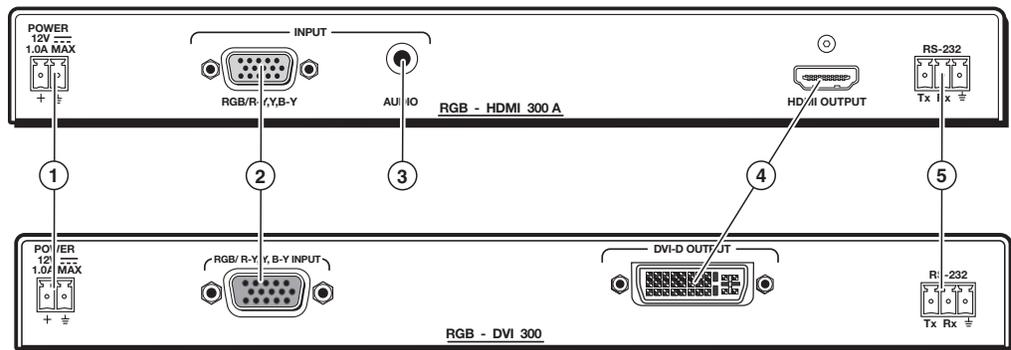

Figure 2. RGB-HDMI 300 A (Upper Panel) and RGB-DVI 300 (Lower Panel)
Figure 2 shows the rear panel features of the RGB-HDMI 300 A (upper image) and RGB-DVI 300 (lower image). The RGB-HDMI 300 is identical to the RGB-HDMI 300 A except that it does not have an audio input (③).